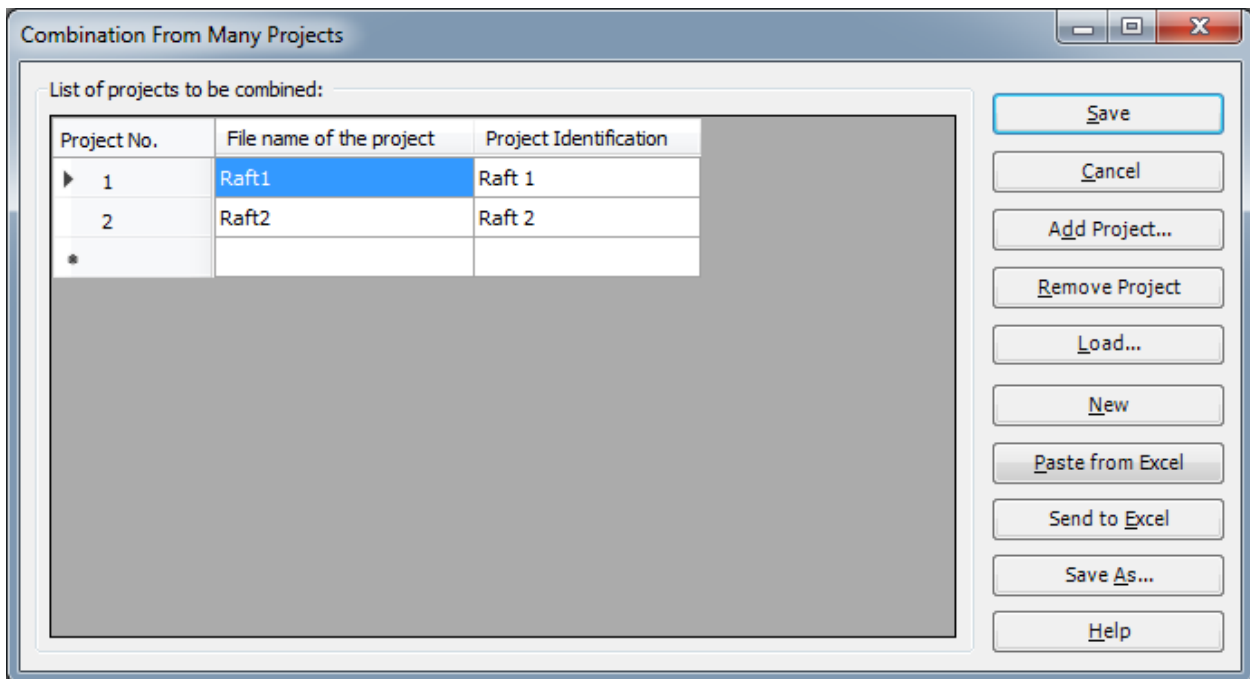

Figure 3.46 "Combination From Many Projects" list box
- Select and check "Combination From Many Projects" Figure 3.46 appears